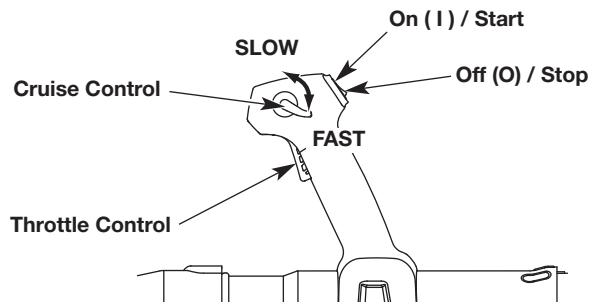

Fig. 7
NOTE: There is no need to turn the unit on. The On/Off switch is in the ON (1) position at all times (Fig. 7).
5. Move the cruise control to the **FAST** position (Fig. 7).
2. Press and hold the On/Off switch in the **OFF (O)** position until the engine comes to a complete stop (Fig. 7).
- Use the cruise control to make continuous operation easier (Fig. 7).